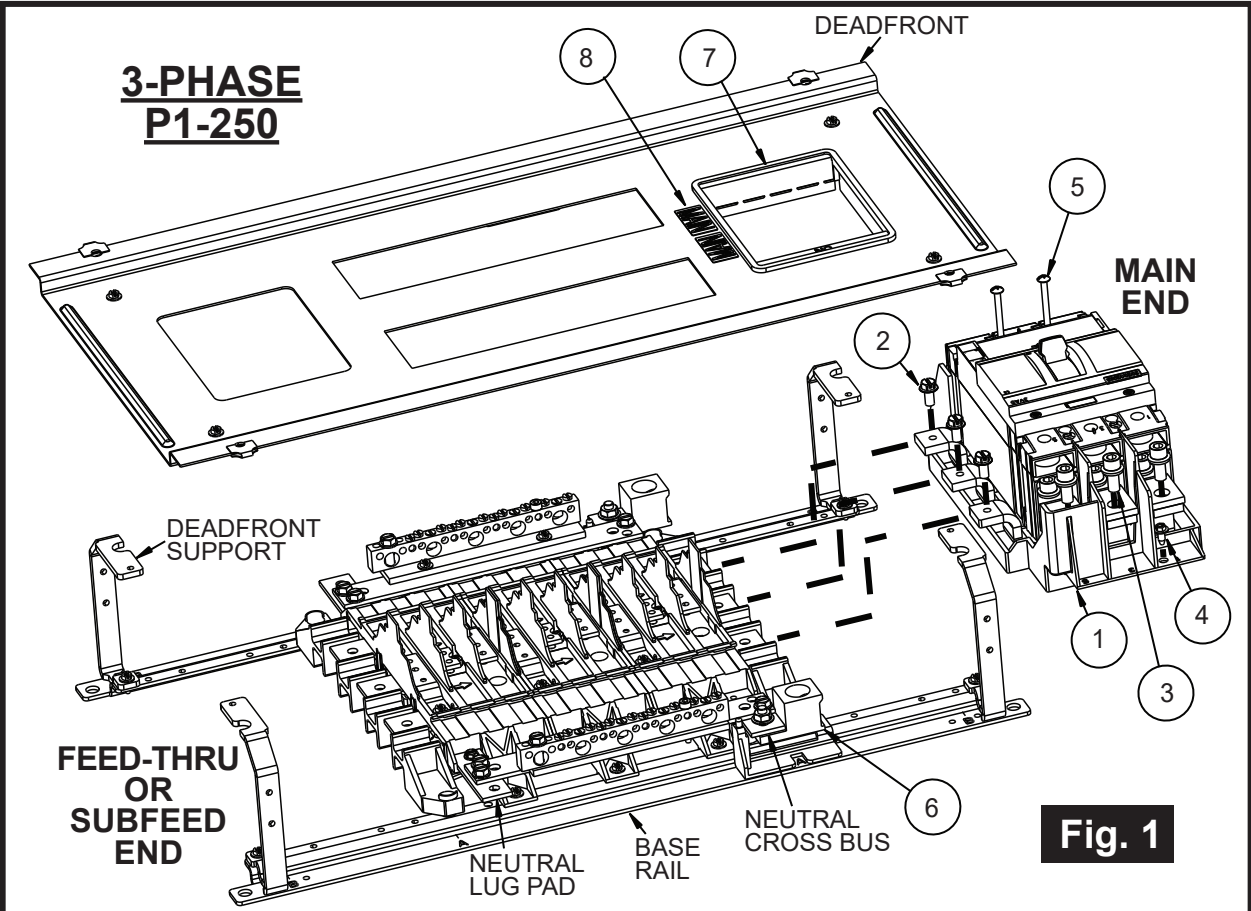

Fig. 1
8. Position the Strap and Barrier Assembly (Item 1) at the **MAIN END** of the panel. (**See Fig. 1**) Ensure the straps are properly snapped into the barrier and then align them below the panel bus.